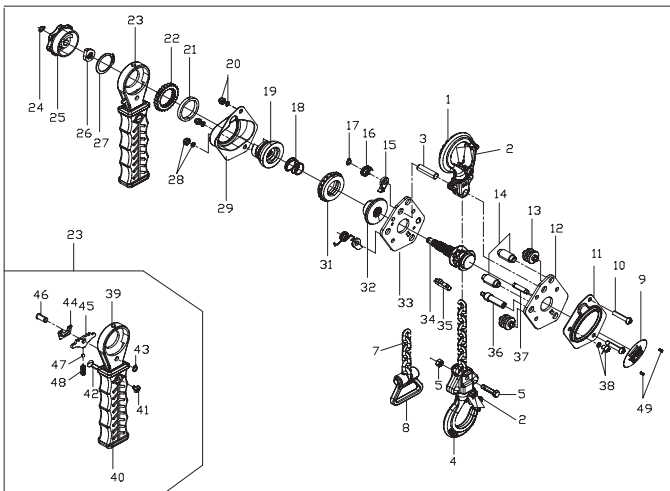

fig.8A
10. Refer to fig. 8A & 8B, product exploded view for part details.